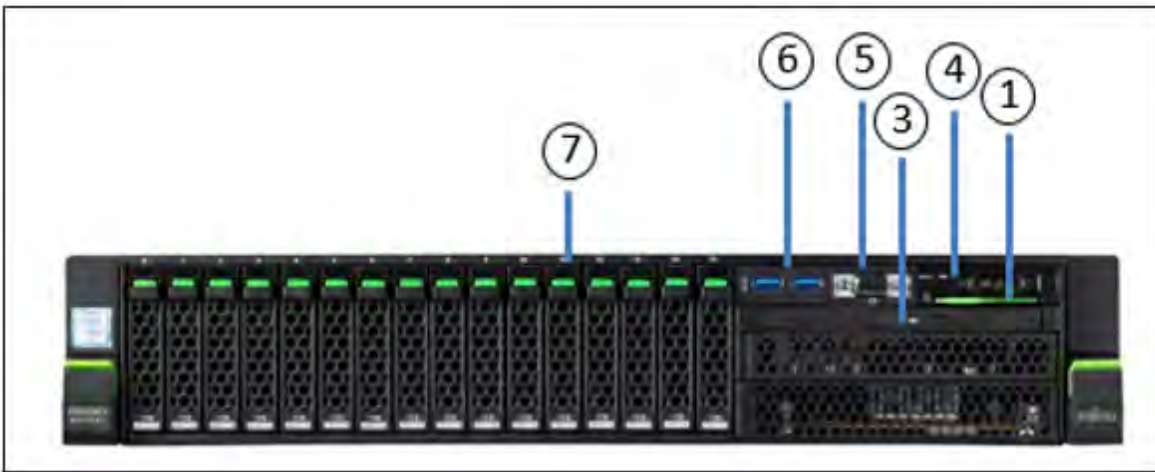

Figure 2: Server Unit SU310 (front)
Before the Server Unit is switched on, the status indicator lights up green (item 5 in figure 2).
Before the Server Unit is switched off, the On/Off switch / status indicator lights up green, and after the Server Unit has been switched off it no longer lights up (item 4 in figure 2).
The "Power cable connected" status indicator (item 5 in figure 2) lights up green when the server is switched off but connected to the power supply (power cable connected).